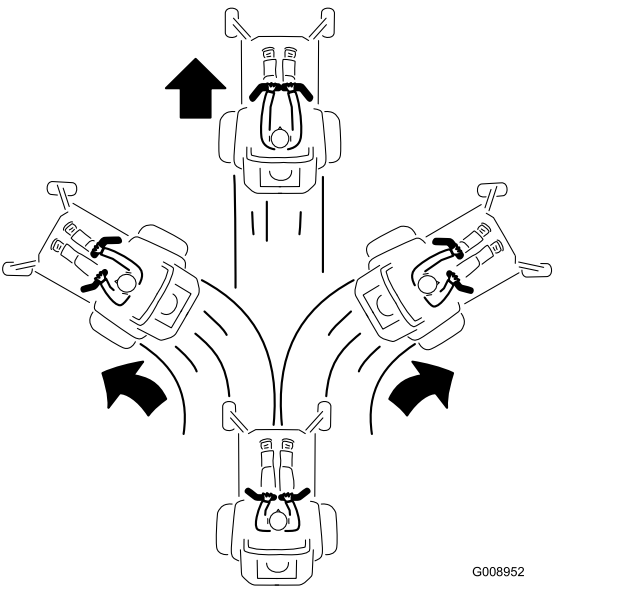

Figure 16
- 2. To go forward, slowly push the motion-control levers forward (Figure 16).
To go straight, apply equal pressure to both motion-control levers (Figure 16).
To turn, release pressure on the motion-control lever toward the direction you want to turn (Figure 16).